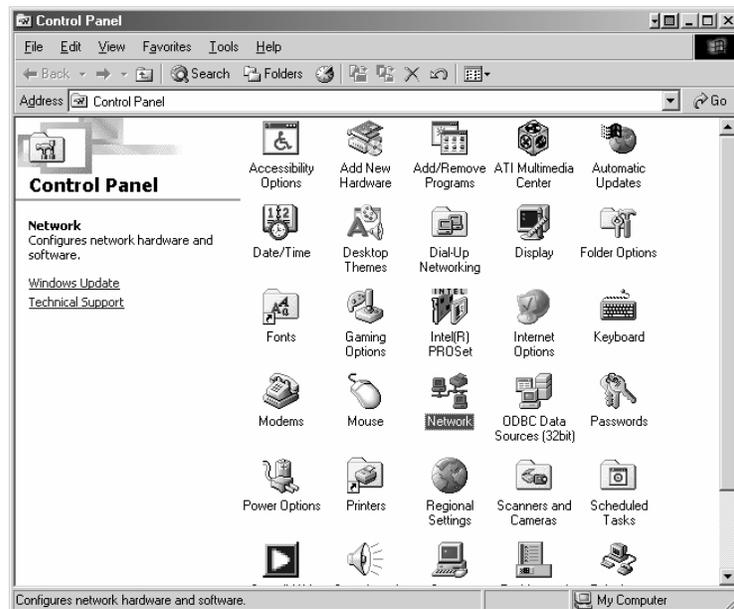

Figure 101: Control Panel
1. On the computer, go to **Start**→ **Settings**→ **Control Panel** and double-click **Network**. See Figure 101.